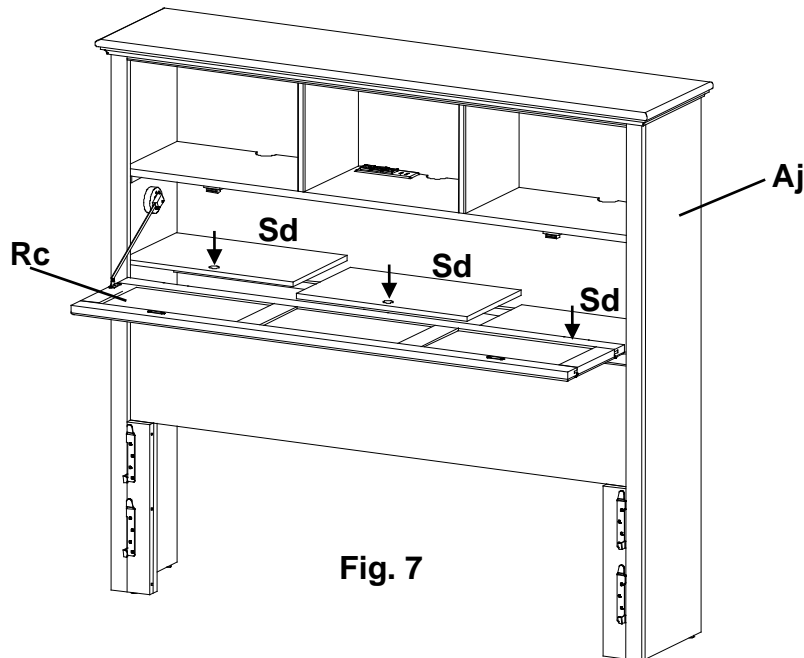

Fig. 7
- Unwrap the False Bottoms (Sd) and place them on top of the rails in the Headboard Assembly (Aj). Make sure the finger holes face forward as shown in Figure 7. After you have placed your electronics inside the cubbies, use the Wire Clips (ZS) on the underside of the cubbies to secure the wires. Close the door tightly making sure the magnetic catches and plates securely touch.